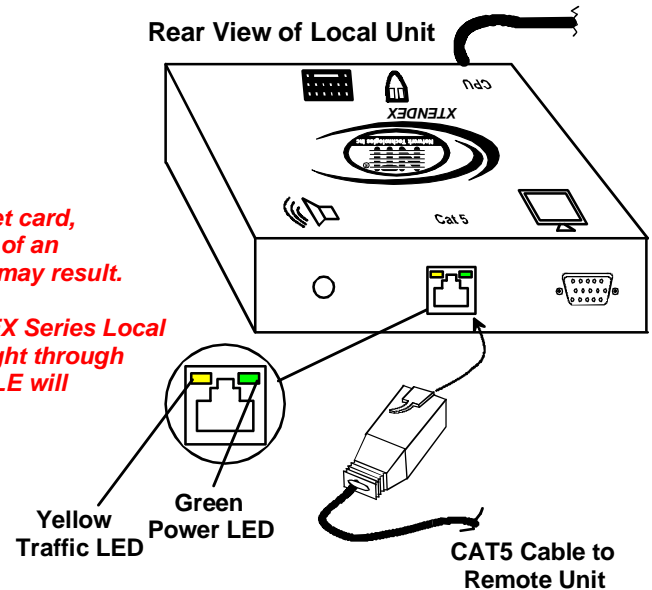

Figure 10- Connect CAT5 cable to Local Unit
Connect the CAT5 cable to the “Cat 5” port on the Local Unit. (See Figure 10.) When properly inserted the cable end should snap into place.
**Note:** The yellow LED on each RJ45 connector will illuminate only on VA models anytime data traffic is passing between the Local and Remote Units, indicating proper CAT5 cable connection and communication. (See Fig. 10)
**Note: The yellow LED on each RJ45 connector will illuminate anytime data traffic is passing between the Local and Remote Units, indicating proper CAT5 cable connection and communication. (See Figure 10)**